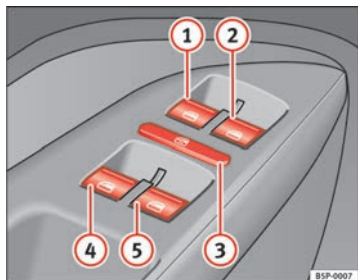

Fig. 69 Detail of the driver door: controls for the front and rear windows
The buttons ⇒ page 113, fig. 69 ① and ② have two levels for opening the window and two for closing it. This makes it easier to open and close windows to the desired position.